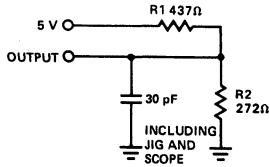

Figure 1a
- Test conditions assume signal transition time of 5 ns or less, timing reference levels of 1.5V and output loading of the specified  $I_{OL}/I_{OH}$  and 30 pF load capacitance, as in Figure 1a.